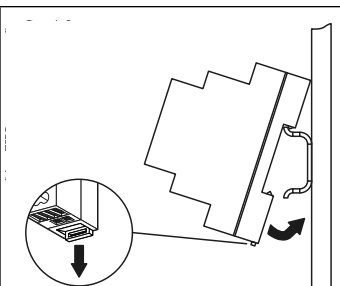
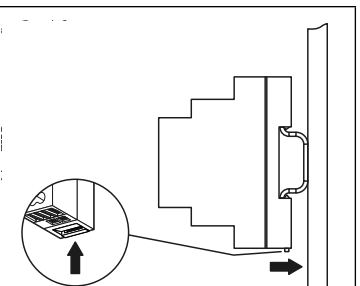
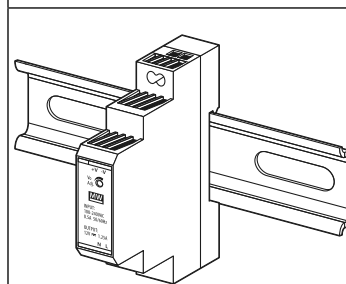

Fig. 29
Fig. 30
Fig. 31
- Fix the power supply to a DIN rail following **Fig.29**, **Fig.30** and **Fig.31**.